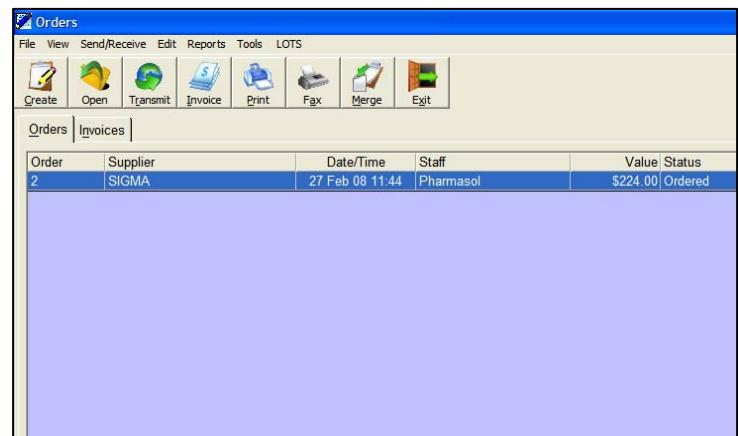

Figure 299
3. Once the order has been sent, you will return to the 'Order' screen and the 'Status' of the order would have changed from 'New' to 'Ordered' (as shown in Figure 299).